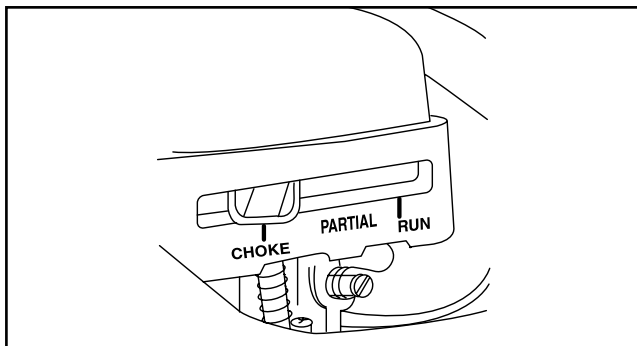

Fig. 15
3. **PLACE THE CHOKE LEVER IN THE FULL "CHOKE" POSITION.** See Fig. 15.
7. **PLACE THE CHOKE LEVER IN THE "PARTIAL" POSITION.** Pull the starter rope briskly 1 to 3 times to start the engine. See Fig. 15.
8. After the engine warms up for 5 to 10 seconds, **PLACE THE CHOKE LEVER IN THE "RUN" POSITION.** See Fig. 15.